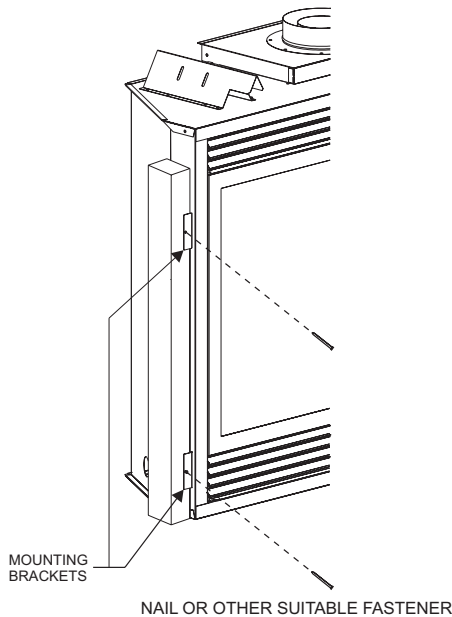

Figure 9
2. Frame in fireplace with a header across the top. It is important to allow for the finished face thickness when setting the depth of the frame. **See Figures 9 & 11.**
3. Attach fireplace to framing using (4) adjustable nailing flanges. Preset depth to suit facing material (adjustable to 1/2", 5/8" or 3/4" depths).
4. Use (8) 1/2" hex-head screws supplied in hardware package to screw through slotted holes in nailing flanges, then screw into pre-drilled holes on fireplace side. Measure from face of fireplace to face of the nailing flanges to determine final depth.